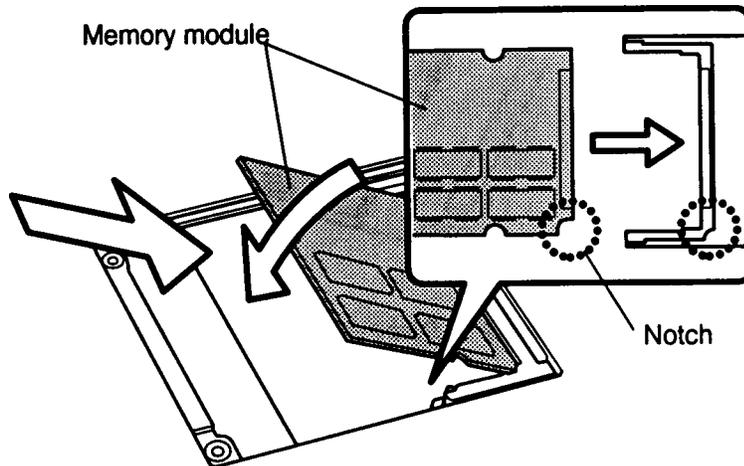

Figure 4-6 Inserting the memory module
To install an optional memory module in the computer, follow the steps below and refer to Figures 4-6 back through 4-4.
1. Turn the computer over and insert the **memory module**, connectors first, into the computer's connectors. Note the notch at the corner of the module. This notch should be on the right as you insert the module (Figures 4-6).